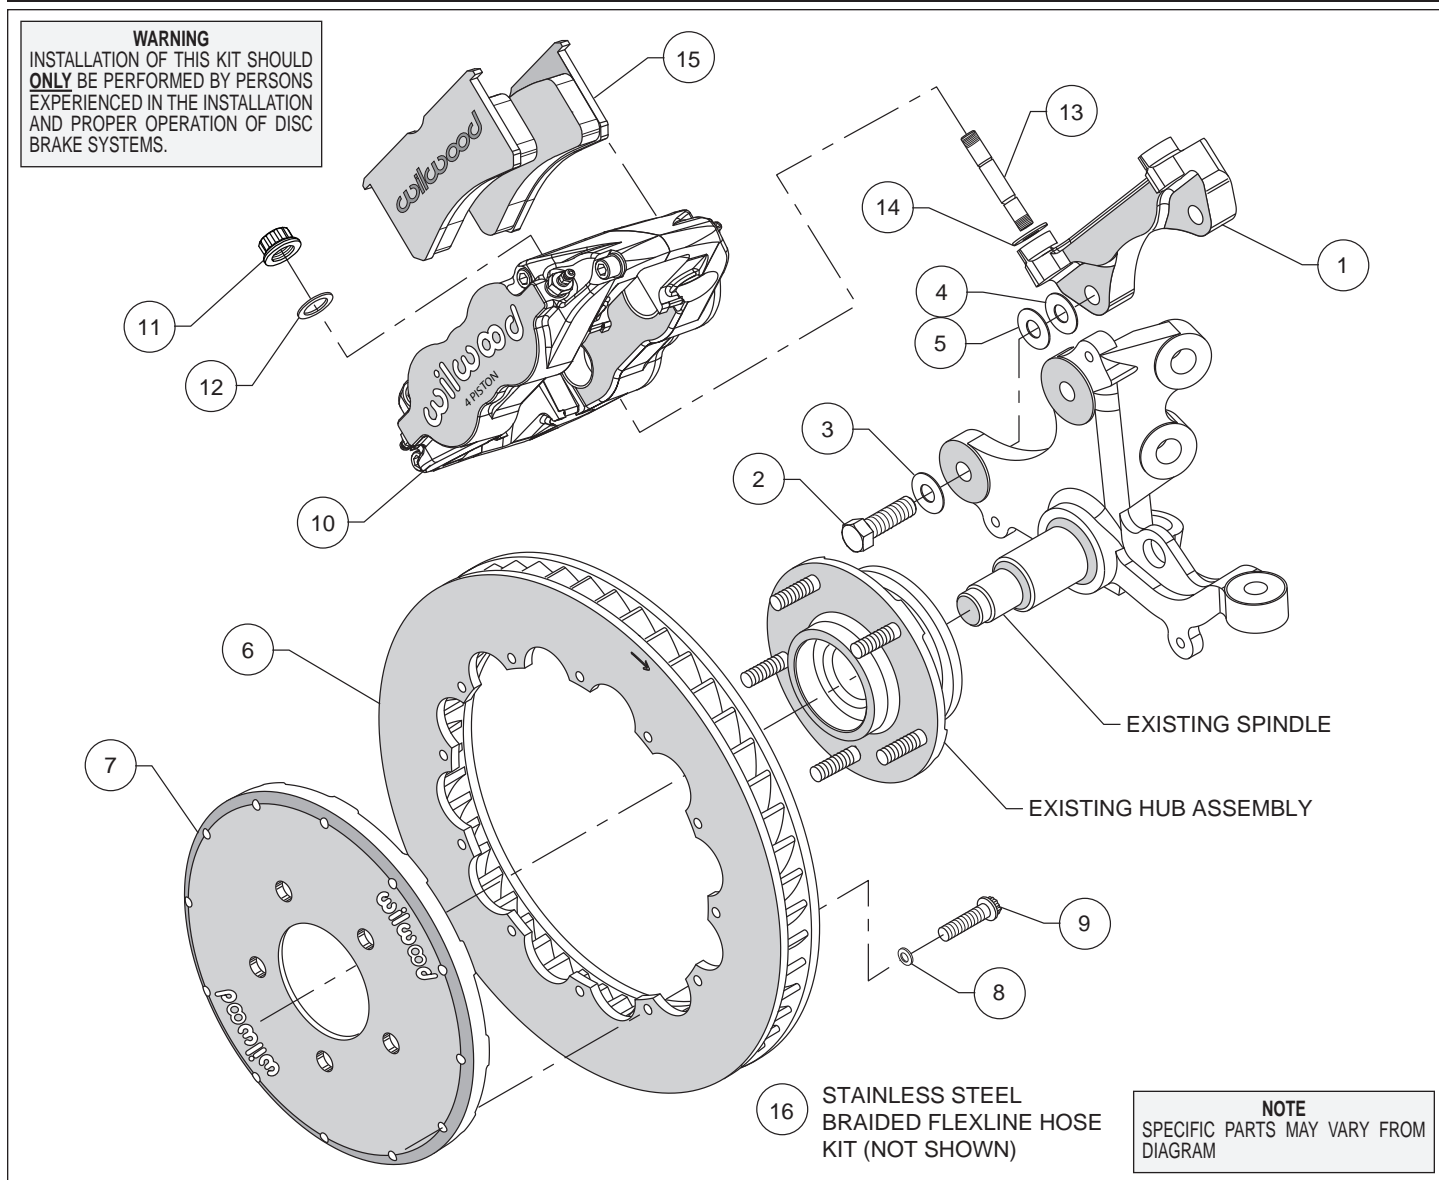
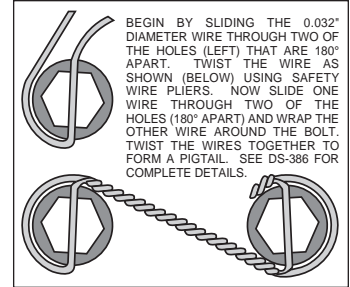

Figure 1. Typical Installation Configuration
Figure 3. Safety Wire Diagram
**Assembly Instructions** (numbers in parenthesis refer to the parts list and Figure 1 on the preceding page):
- The caliper mount bracket (1) should initially be installed with clean, dry threads on the mounting bolts. Orient the bracket as shown in Figure 1, and install using bolts (2) and washer (3). Initially place one .033 thick shim (4) on each bolt between the bracket and upright, Figure 1. Temporarily tighten the mounting bolts. Later, after the caliper alignment has been checked, the mount bolts will be secured using red *Loctite*® 271.
- Orient the rotor (6) and the hat (7) as shown in Figure 1 and Photo 1. Attach rotor to hat using bolts (9) and washers (8). Using an alternating sequence, apply red *Loctite*® 271 to the threads, and torque to 155 **in-lbs**. Safety wire the bolts using standard 0.032 inch diameter stainless steel safety wire as shown in Figure 3. Refer to Wilwood's data sheet DS-386 (available at [www.wilwood.com/Pdf/DataSheets/ds386.pdf](http://www.wilwood.com/Pdf/DataSheets/ds386.pdf)) for complete safety wire installation instructions.
- NOTE:** This kit contains distinct right and left hand calipers that must be mounted in a specific direction, as described below. Lubricate the caliper mounting studs (13) with lightweight oil. Initially place one .035" thick shim (14) on each stud as shown in Figure 1 and Photo 2. Mount the caliper (10) onto the bracket (1) using lock nuts (11) and washers (12), Figure 1. Ensure that the caliper is mounted so that the largest pistons are at the rotor exit end of the caliper, in relation to the direction of rotor rotation. Temporarily tighten the lock nuts and view the rotor through the top opening of the caliper. The rotor should be centered in the caliper, Photo 3. If not, adjust by adding or subtracting shims (4 and/or 5) between the bracket and the upright. Always use the same amount of shims on each of the two mounting bolts. Once the caliper alignment is correct, remove the bracket mounting bolts one at a time, apply red *Loctite*® 271 to the threads, and torque to 60 ft-lbs.